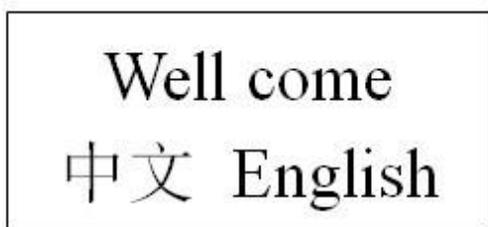
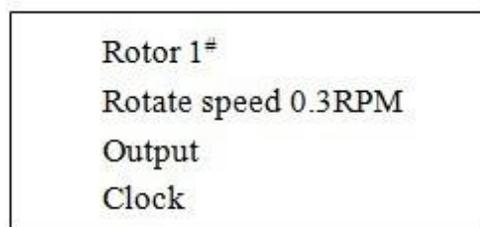
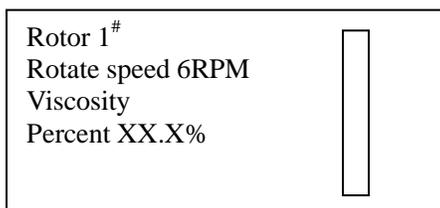

Figure 5
Figure 6
Figure 7
- ii. Turn on the power switch, enter standby state, the instrument display both Chinese and English character. Screen shown in figure 5. Press  or  to select language mode you need, press OK to set, press OK to enter, screen shown in figure 6:
(Figure 6), press  or , select rotate speed, the instrument has five rotate speeds: 6 rpm, 30 rpm, 60 rpm and auto mode. After setting rotor and rotate speed, press OK, the rotor begins to rotate, and the instrument begins to measure, screen shown in figure 7
In figure 7, the rotate speed unit is RPM, and the viscosity unit is mPa·s; the vertical bar on right side displays the sampling process; percent: the measured viscosity is the percent of the full scale.
- v. In figure 6, move the cursor to output mode, press  or  to select communication state or print state.
- vi. In figure 6, move the cursor to clock mode, press  or  to select display mode or amendment mode, if you choose the display mode, current time can be displayed; if you choose the amendment mode, you can amend time and date.